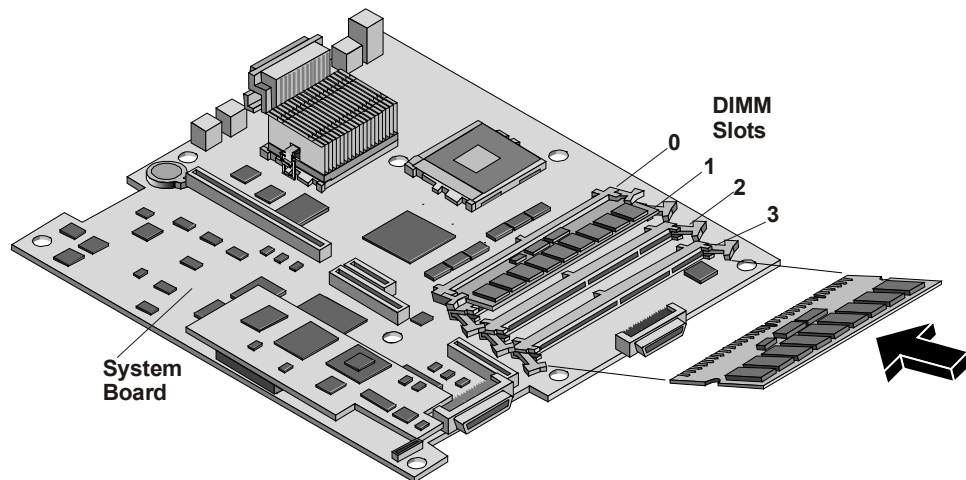

Figure 4-4. DIMM Insertion
11. Holding the DIMM at approximately 30° to the system board, press the DIMM fully into the slot until the retaining latches close. See Figure 4-4.